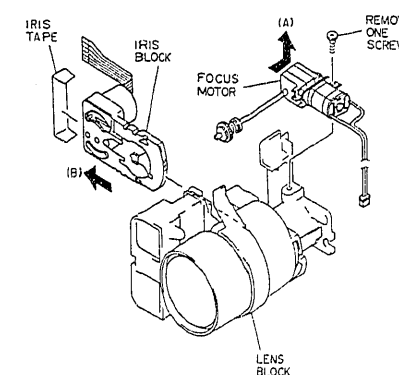

Fig. 2-103
- 2) Remove one (1) screw and remove the focus motor in the direction of arrow (A) from the lens block. (See Fig. 2-103)